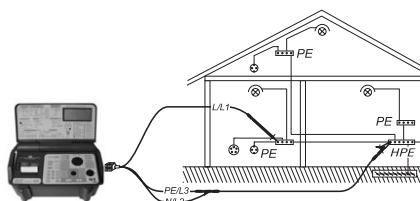

Figure 6.2.1 Connection of test leads
- ▶ Switch on UNTEST EURO EXPERT plus via switch "ON/OFF" (9).
- ▶ Turn function switch (1) into position "LOW Ω (10)".
- ▶ Connect the desired test lead to the measurement connector (17) of UNTEST EURO EXPERT plus..
- ▶ Connect the test leads to UUT in accordance with Figure 6.2.1. or 6.2.2.